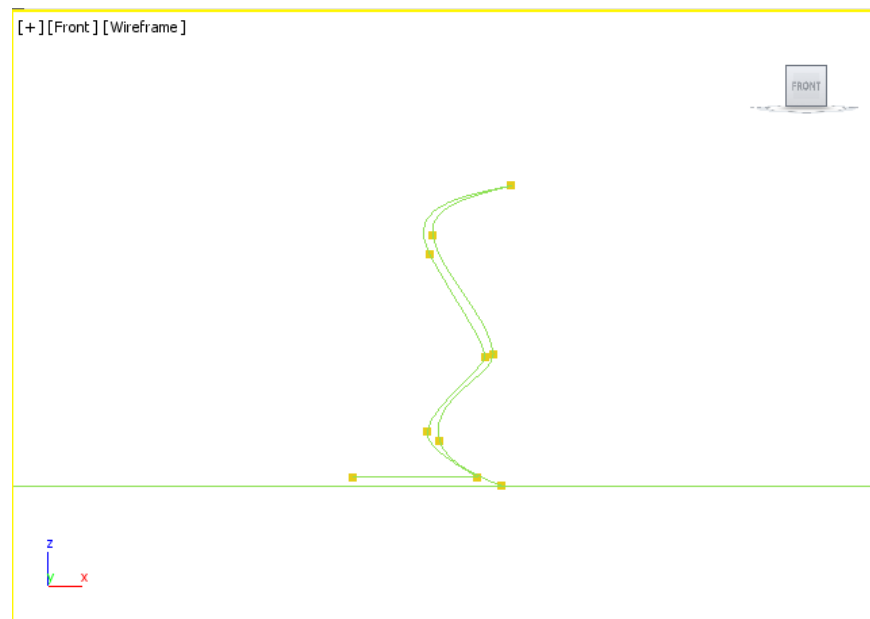

Figure 5-14 The curve edited by moving the bezier handles of the vertices
13. Similarly, change the curvature of the other vertices and move some of them to get the shape of *Jug* similar to the one shown in Figure 5-14. You can move a vertex by directly clicking on it.